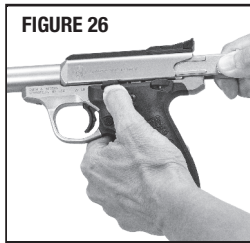

FIGURE 26
- With the barrel still pointing in a safe direction, and with your finger off the trigger and outside the trigger guard, grasp the serrated sides of the bolt from the rear with the thumb and fingers while holding the firearm in an upright position, and briskly draw the bolt fully rearward in order to extract any cartridge from the barrel chamber and clear it from the pistol. Lock the bolt into the open position by pressing the bolt stop lever to the up position (FIGURE 26).